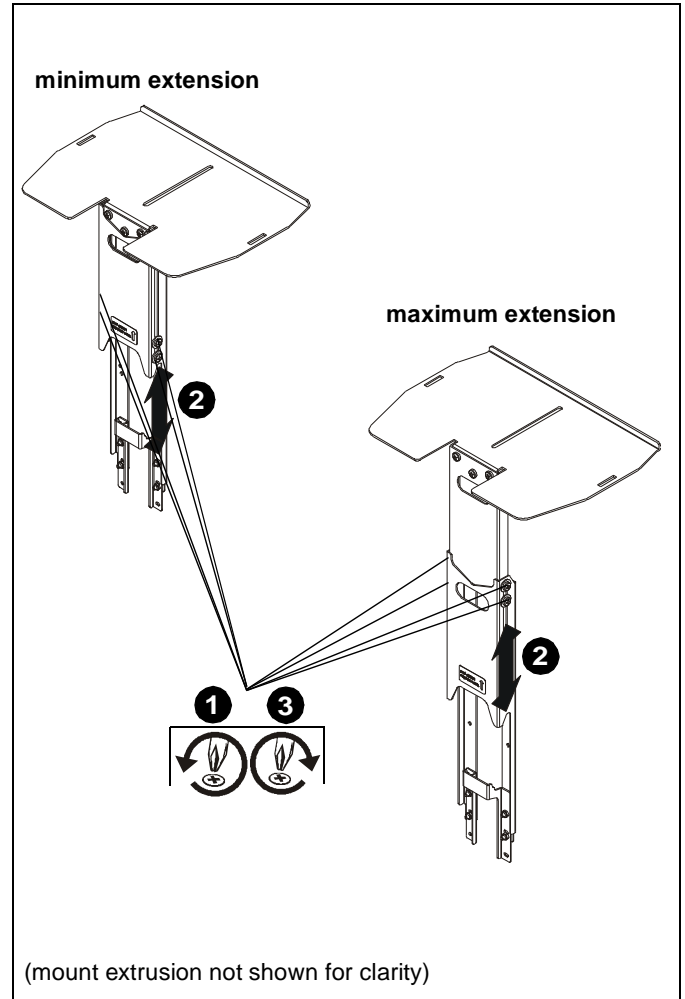

Figure 20
1. Loosen two screws on each side of upright. (See Figure 20)